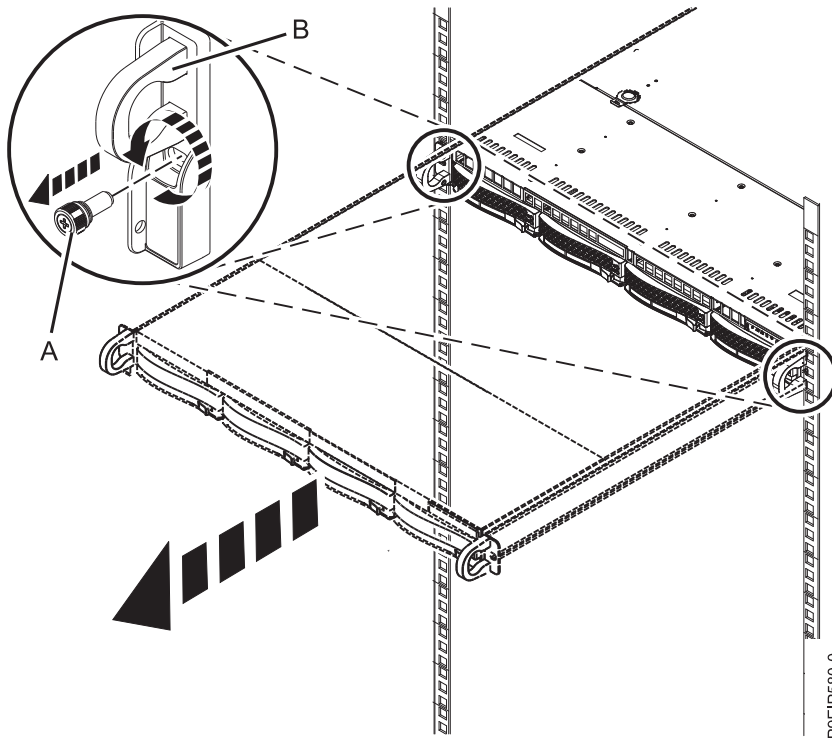

Figure 72. Removing the front screws and removing the system from the rack
2. Remove the front screws that secure the system to the rack from both sides of the system as shown in Figure 72.